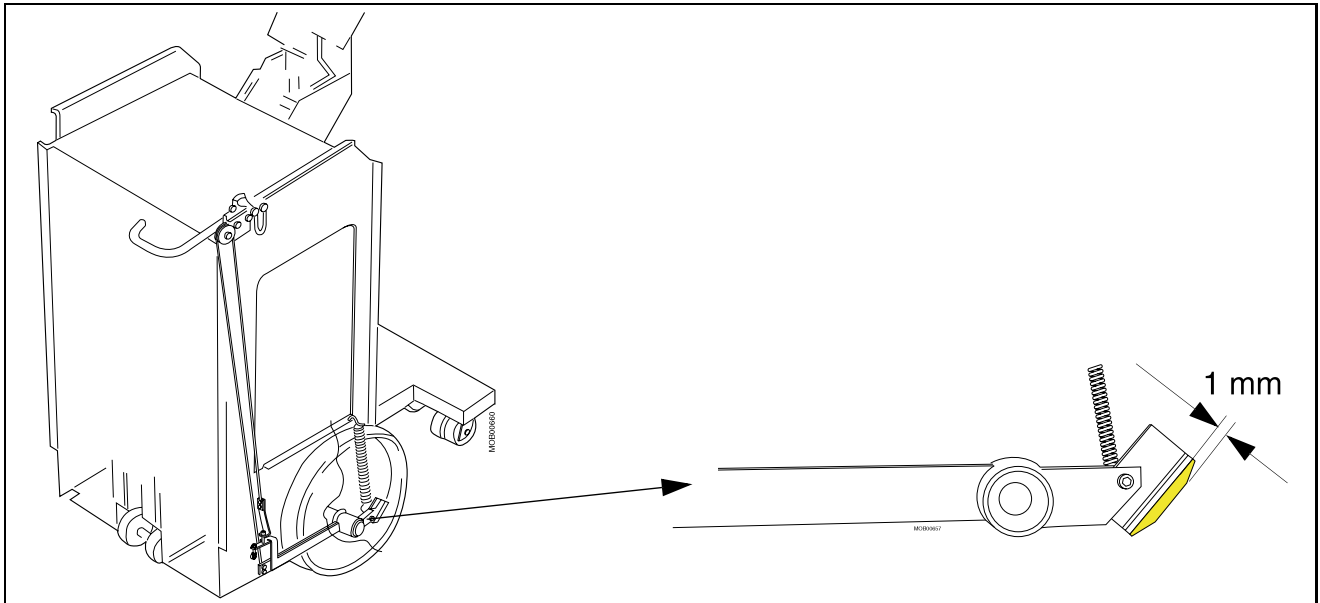

Fig. 3:
- Check the brake lining (Fig. 3 / p. 27). If the lining is worn down to less than 1 mm, it must be replaced. Refer to the section on "Adjusting the hand brake/parking brake" in the Service Instructions.